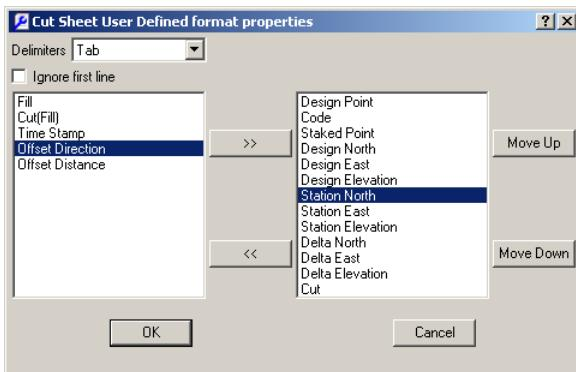

Figure 3-100. Cut Sheet User Defined Format Properties Window
4. In the **Cut Sheet User Defined format properties** dialog box, enter the file's parameters (Figure 3-100).